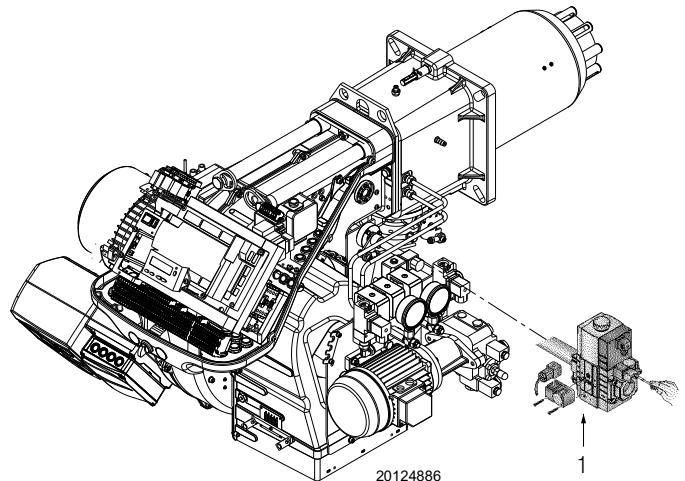

Fig. 38
- Check the gas supply pressure by connecting a pressure gauge to the pressure test point 1)(Fig. 38) of the minimum gas pressure switch: it must be lower than the maximum allowed pressure of the gas train, as shown on the characteristics label.
- Bleed the air from the piping of the gas train, connecting a plastic tube to the pressure test point 1)(Fig. 38) of the minimum gas pressure switch.